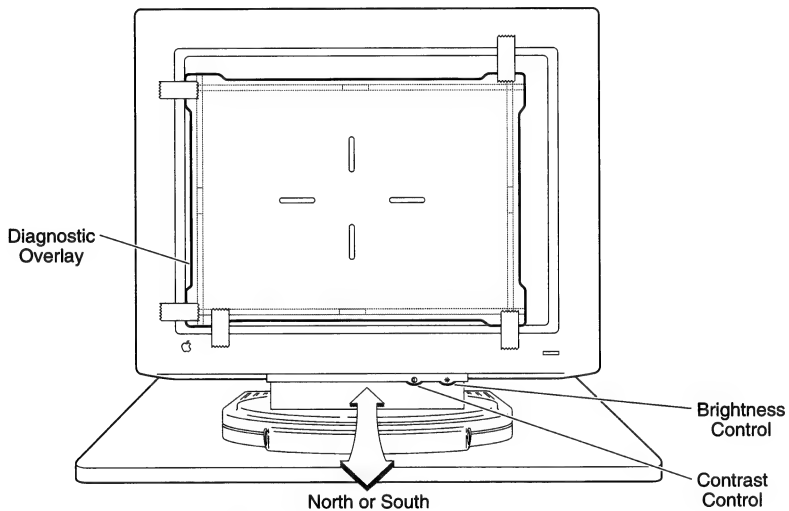

Figure 10 Setting the Contrast and Brightness Controls
5. FIGURE 10. Tilt the monitor up approximately 5 degrees and install the diagnostic overlay on the bezel, as follows:
6. FIGURE 10. Set the brightness control to detent (midrange) and the contrast control to maximum (turn clockwise).